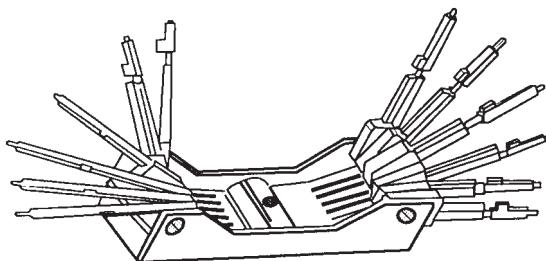

Figure 2.35 Safe change keys are needed to change the combinations of certain types of safes. (Keedex Mfg.)
- Change keys, assorted (Fig. 2.35)